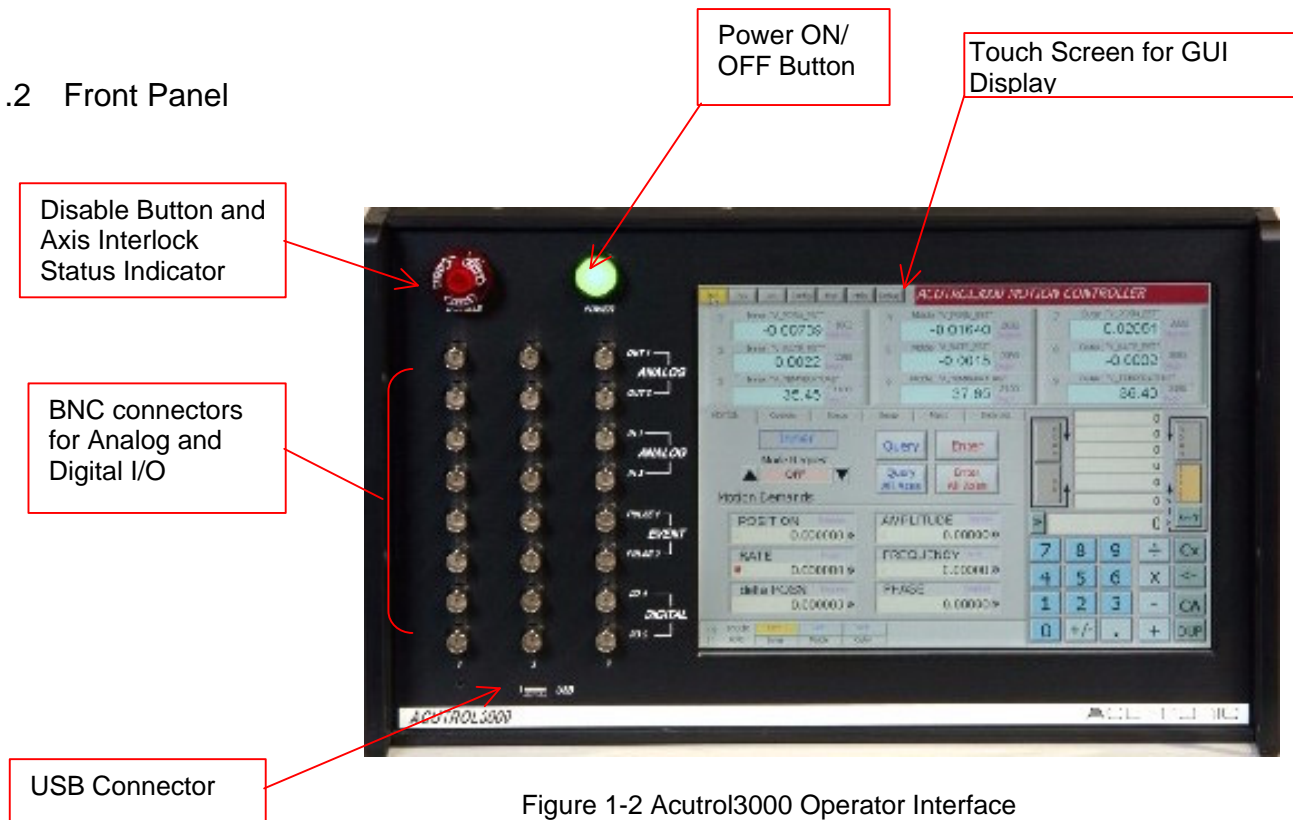

Figure 1-2 Acutrol3000 Operator Interface
Figure 1-2 shows the front panel of the Acutrol3000. The front panel has five main components:
1. Press the green Power ON/OFF Button. See Figure 1-2.